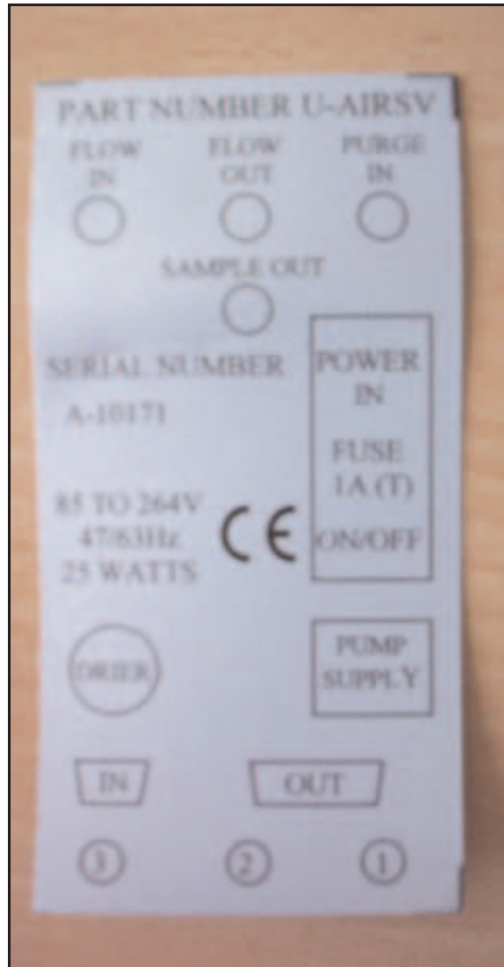

Figure 5. Connections on the back of the Air Server Unit.
- Connect the end of the long piece of PEEK tubing that was passed through the rear bulkhead of UNITY(e) to the 1/8" fitting on the Air Server labeled '**FLOW IN**' (top left as you look at the back of the Air Server unit - see Figure 5).
- Connect the brass 1/16" nut to the brass 1/16" union on the Air Server back plate labeled '**PURGE IN**' (top right as you look at the back of the Air Server unit - Figure 5)
- Connect the stainless steel 1/16" nut to the stainless steel union on the Air Server back plate labelled '**SAMPLE OUT**' (middle, second row top as you look at the back of the Air Server unit - Figure 5).
(supplied in the pump shipping kit) to the 1/8" top, middle fitting on the Air Server back plate labeled '**FLOW OUT**' see Figure 5.
- Sample lines are connected to the fittings at the bottom of the Air Server back plate labelled 3, 2 and 1 (Figure 5).
- Attach the PC to Air Server cable (SERZ-0189) to the 9-pin D connector on the back of the Air Server labeled '**IN**' (see Figure 5)
- Connect one length of silicon rubber tubing to the outlet of the pump and use the other to link the pump inlet to the Copper tube adapter installed onto the '**FLOW OUT**' fitting on the back of the Air Server - See Figure 5.
- Connect the 1/16" sample inlet to the dryer to the 1/16" '**SAMPLE OUT**' union on the back of the Air Server (see figures 5 and 7).